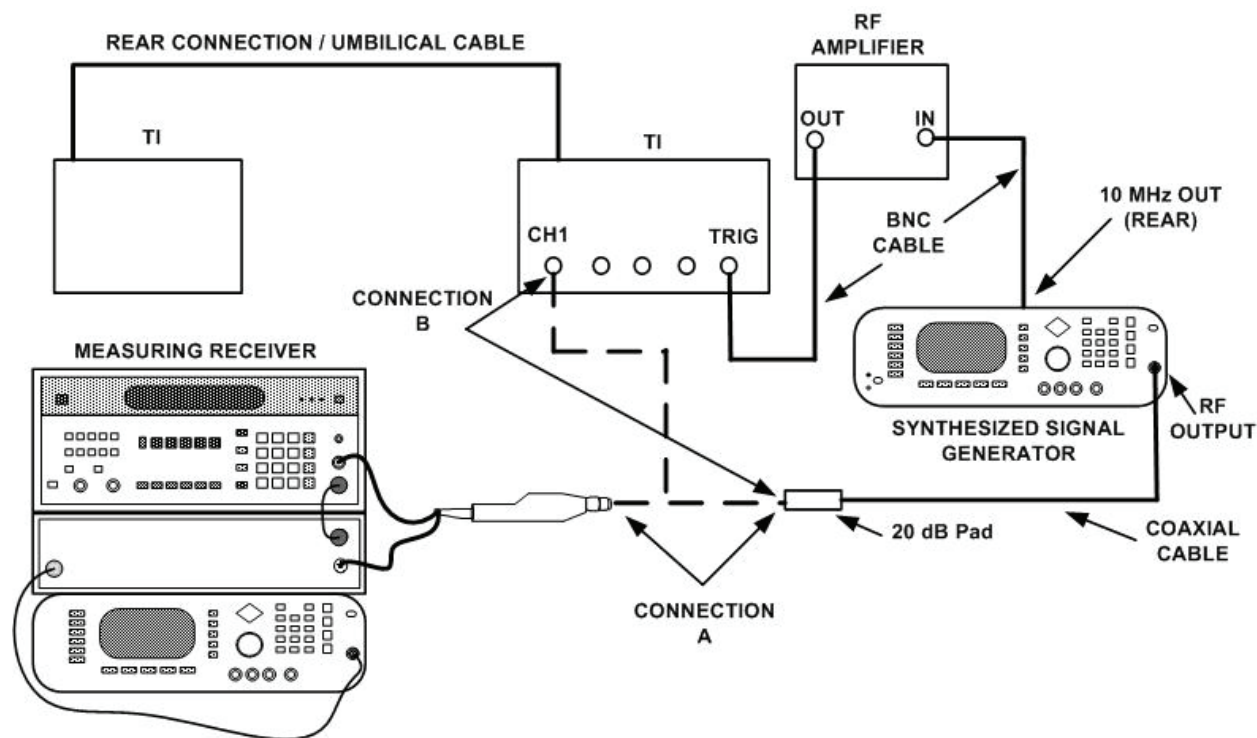

Figure 2. High bandwidth - equipment setup.
(11) Repeat (7) through (10) above for **Channels 2, 3, and 4**.
(12) Connect equipment as shown in figure 2, CONNECTION A.
- (13) Set synthesized signal generator amplitude for +6 dBm and frequency of 12.42 GHz.
- (14) Measure and record the mV reading of synthesized signal generator and measuring receiver for frequency of 12.42 and 18 GHz in table 4, part 1.
- (15) Connect equipment as shown in figure 2, CONNECTION B.
- (16) Press **Timebase** key and set **TIME/DIV** to **Sweep Speed = 15.00 ps/div**.
- (17) Press **Display** key and set **Bandwidth to 20 GHz** is highlighted. Press **Channels** key and set **Channel 1** display **On** is highlighted.
- (18) Press the **SYSTEM CONTROL/CLEAR DISPLAY** pushbutton and allow 64 averages to accumulate (top left corner of display).
- (19) Press the **More** and **Measure** keys.
- (20) Press the **Precision** key until **Fine** is highlighted, then press **RMS Voltage** key. Record the RMS volts of synthesized signal generator in table 4, part 2.
- (21) Repeat (15) through (20) above for **Channels 2, 3, and 4**.
- (22) Using the formula provided in table 4, part 3, calculate the bandwidth gain of the TI at 50 MHz, 12.42 GHz, and 18 GHz. Bandwidth will be -3 dB or less.
- (23) Remove all connections from TI.